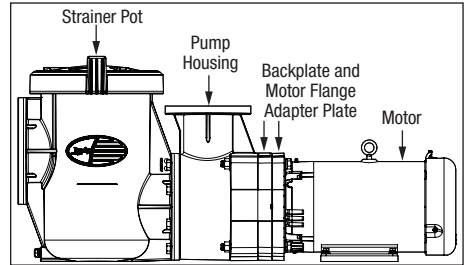
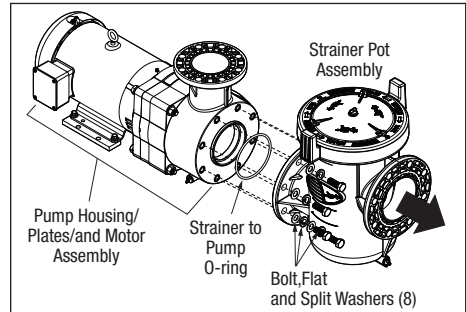

Figure 11. JCP Pump with Strainer Pot Assembly
Figure 12. Remove Strainer Pot from Pump Assembly
5. Using a 15/16" wrench, loosen the eight (8) 5/8" Hex Screws securing the Strainer Pot assembly to the pump housing/motor body. See *Figure 11* and *Figure 12*.
6. Pull the Strainer Pot assembly forward from the Pump Housing/Plates/Motor assembly, as shown in *Figure 12*.
7. Remove the Strainer to Pump O-ring on the front of the Pump Housing. See *Figure 12*.